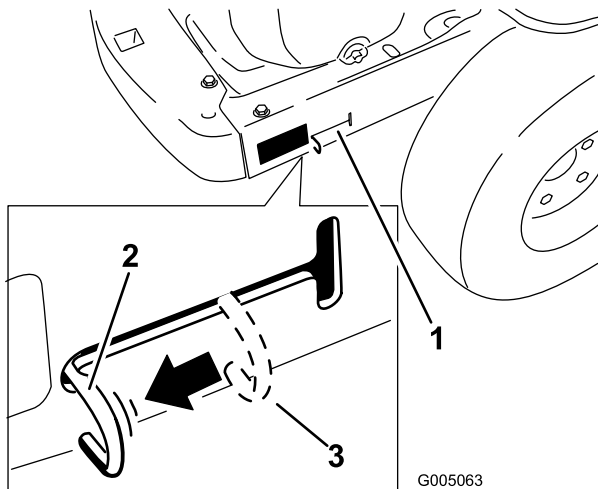

Figure 18
4. Move the bypass levers rearward and then down to lock them in place as shown in Figure 18 to disengage the wheel motors. Repeat this on each side of the machine.
Move the bypass levers upward and push them forward, to the **middle** of the horizontal slot (Figure 18) to engage the wheel motors.